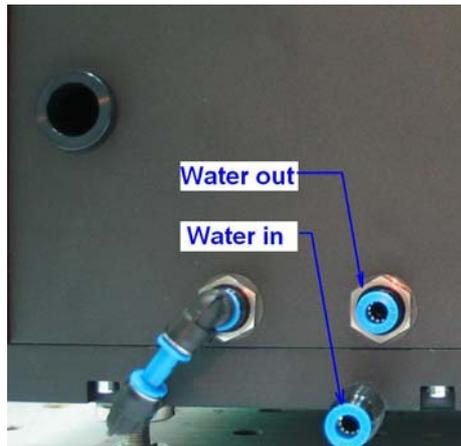

Figure 4. Water connectors
6. Hook up the water tubes to the laser head (Fig.4) and switch on cooling water (moderate water flow ≥ 0.5 l/min).